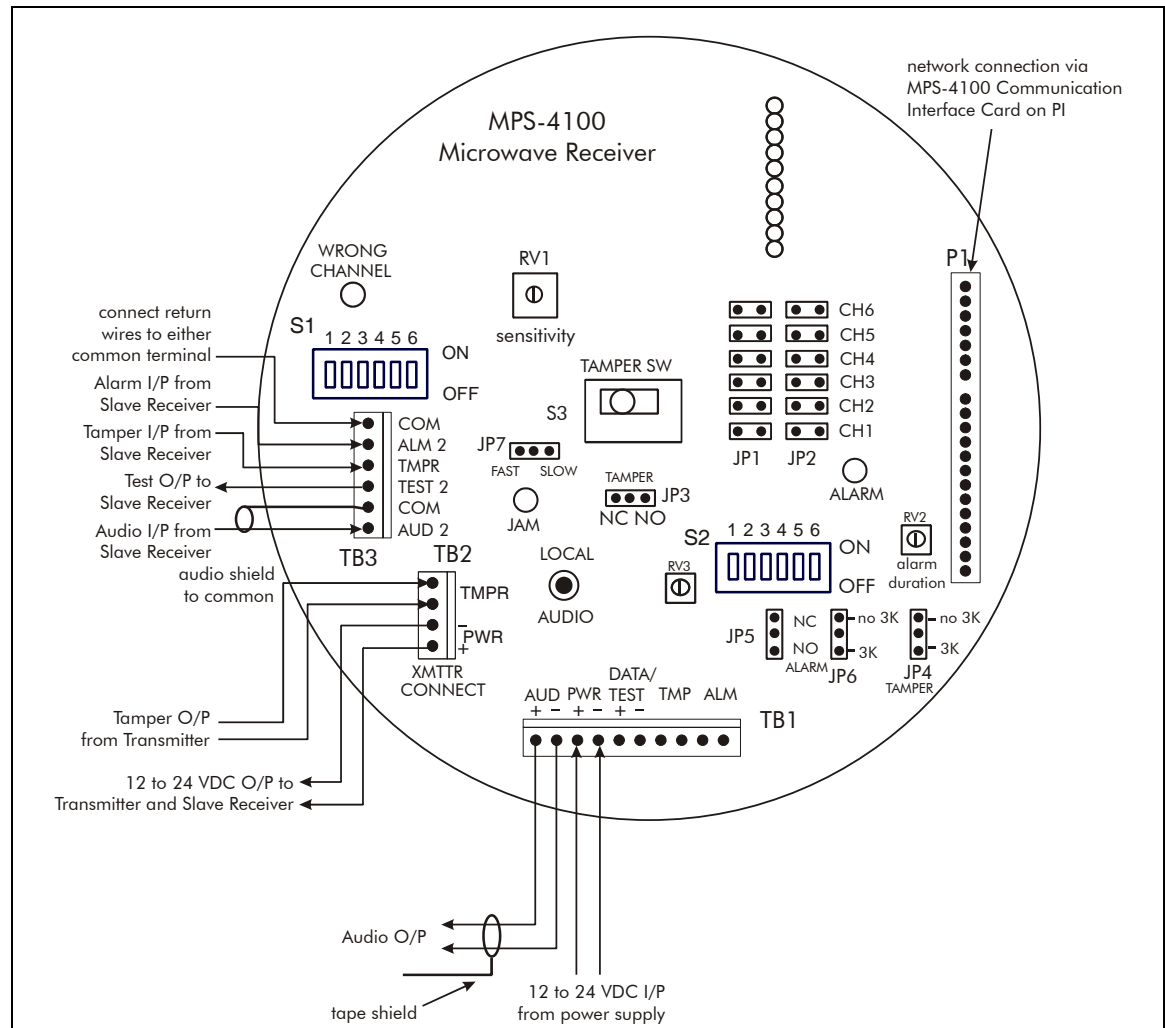

Figure 2-21 MPS-4100 Host Receiver connections
1. Connect the power wires to TB1. **Observe Polarity.** (See Figure 2-21.)